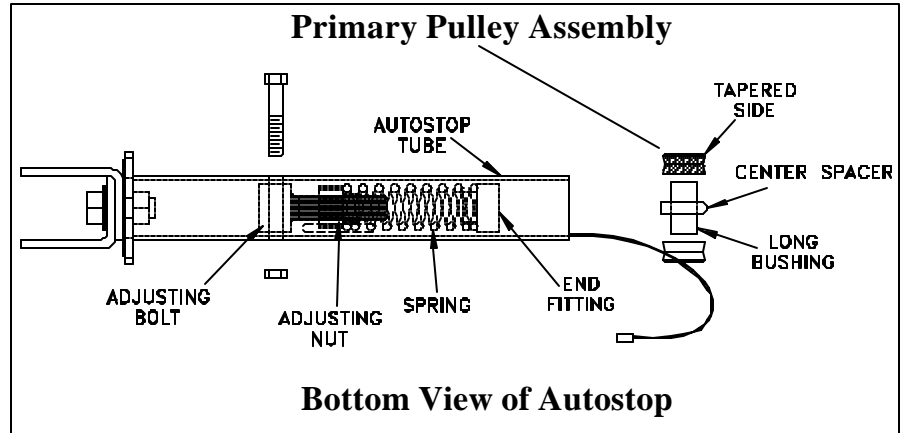

Figure 11
- Lay the AutoStop tube on a table or bench with the hitch mount end towards you. (Figure 11) Thread the adjusting nut onto the adjusting bolt all the way on the threads. Slide the compression spring onto the adjusting bolt all the way onto the adjusting nut. Then place the end fitting on the other end of spring. Slide this assembly into the AutoStop tube until adjusting bolt hole is lined up with the two front holes of AutoStop tube, then insert the 7/16" hex bolt through the AutoStop tube and secure bolt with hex jam nut.